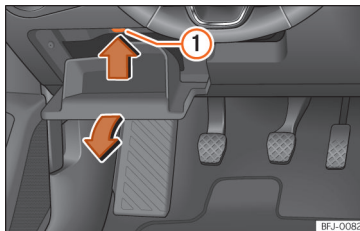

Fig. 102 On the dashboard on the driver side (left guide): lid of the fuse box.
- Open the storage compartment on the driver side »» Fig. 102.
- Press the locking lid »» Fig. 102 ① upwards, in the direction of the arrow, and at the same time open the storage compartment even more and remove it until the fuse box is accessible.